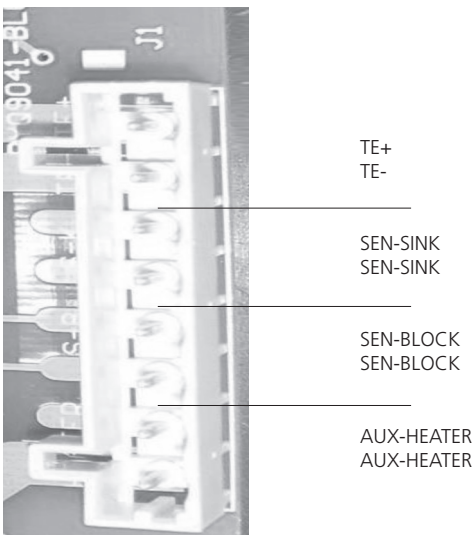

Fig.23
2.5.4 Test the resistance as Fig.23. The resistance of TE should be around $3\ \Omega$, and the resistance of Sensor should be around $10K\ \Omega$. If not, need to repair the block.